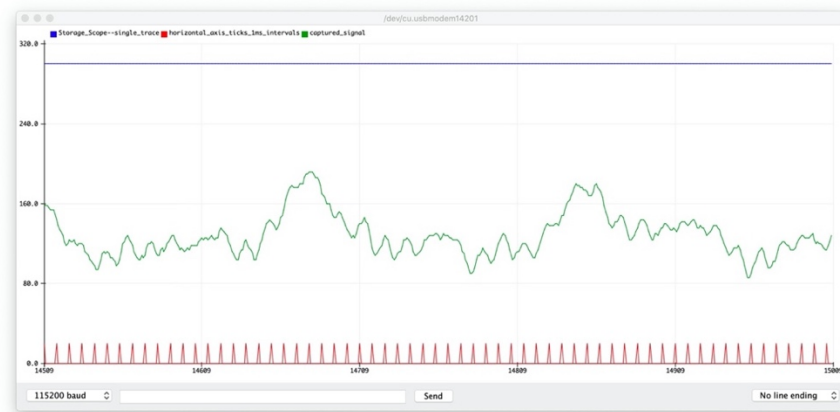

Figure 3. Storage scope displaying music. Red tick marks occur at 1 mSec intervals.
As another optional part of this lab you can explore two methods to visualize a signal. One method is known as a storage oscilloscope and the other is a spectrum analyzer. In each case you’ll play music or other audio into the Arduino. It will capture approximately 60 mSec of audio and transfer it up to the Serial Plotter utility (which is part of the Arduino IDE). See Figures 3 and 4. You’ll learn more about oscilloscopes and spectrum analyzers in future classes, this experiment is intended to be an introduction only. Scopes depict signals as a function of time; spectrum analyzers present them as a function of frequency.
Figure 3 illustrates the storage scope mode. The captured signal (music) is plotted versus time. The red timing marks occur at 1mSec intervals. The numbers up the vertical axis indicate the value of the A/D as read by the Arduino, divided by 4 to convert from 10 bits to 8 bits. (Ignore the numbers along the horizontal axis – they are arbitrary.)
1. Build the circuit shown in Figure 3. Use one of the Op Amps in the LM358. Only two connections are needed for the potentiometer, the middle wiper and one end. Leave the third connection open. Note that RA, CA and RB, CB can be omitted (you likely do not have these in your lab kit). Replace the resistors with a wire, the capacitors with a break or open.
16. Press the button and you should see a signal plot similar to Figure 3.